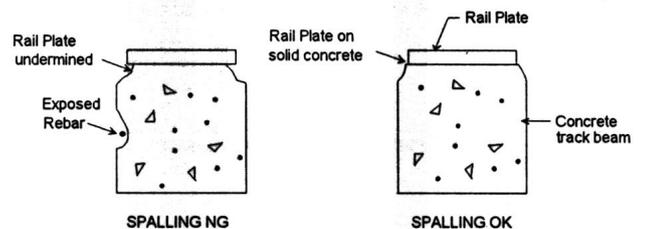

FIGURE 11
- ∅ **Spalling** – Some spalling is OK but if spalling has progressed to undermine the rail plate or is exposing the rebar, it is time to repair. See Figure 11.